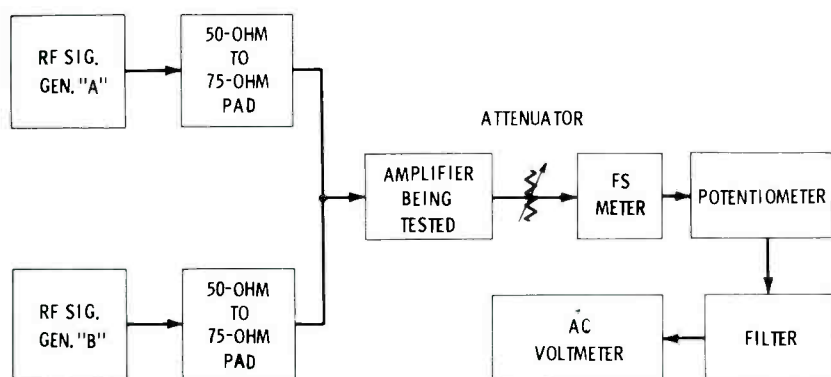

Figure 3
The recommended test set-up for determining the cross-modulation of an amplifier on a relative basis is shown in Figure 3 and the procedure is as follows: (1) Tune the field strength meter and signal generator A to 150 MHz; set signal generator modulation to 30 percent at 1000 Hz, and the RF level to the rated output of the amplifier; adjust the potentiometer and AC voltmeter for a convenient level which then corresponds to 100 percent cross-modulation; then turn off the modulation; (2) Tune signal generator B (modulated 30 percent at 1000 Hz) and the field strength meter to 210 MHz and adjust RF level to the rated output of the amplifier. (3) Set the field strength meter to 150 MHz and note the indication of the